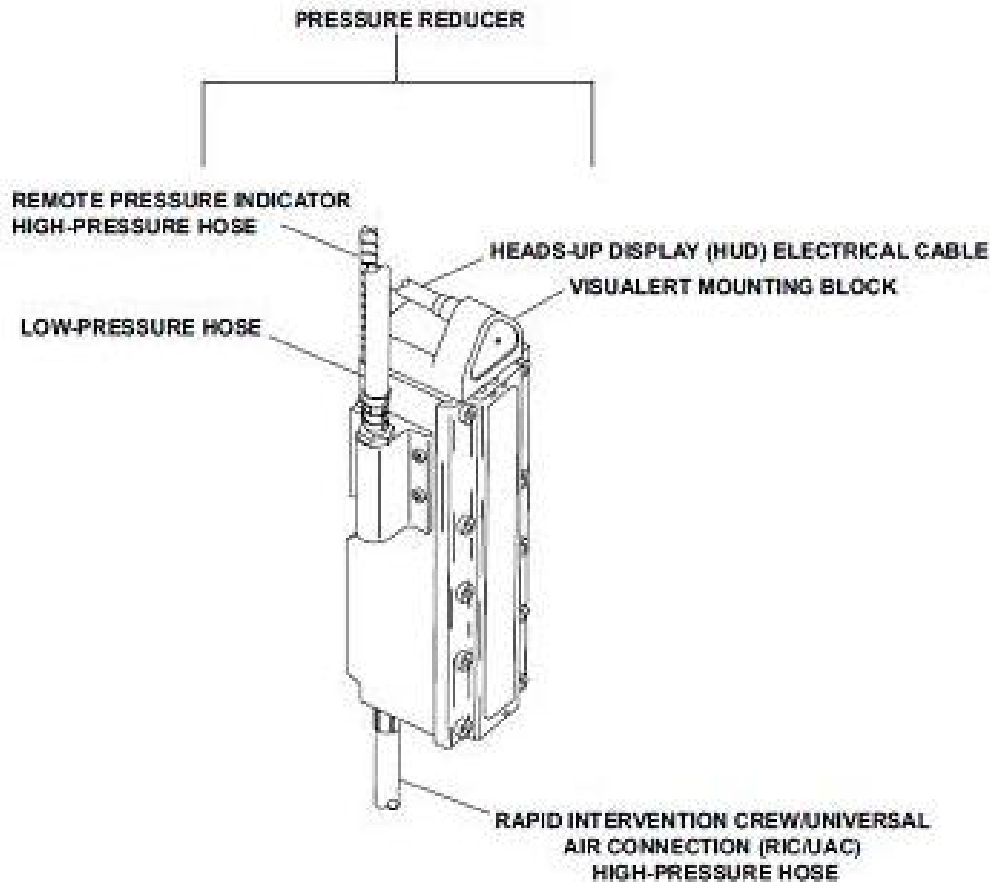

Figure 551-8ST-1004\_05 (Pressure Reducer)
d. Check the pressure reducer and Visualert before use. (Figure 551-8ST-1004\_05)